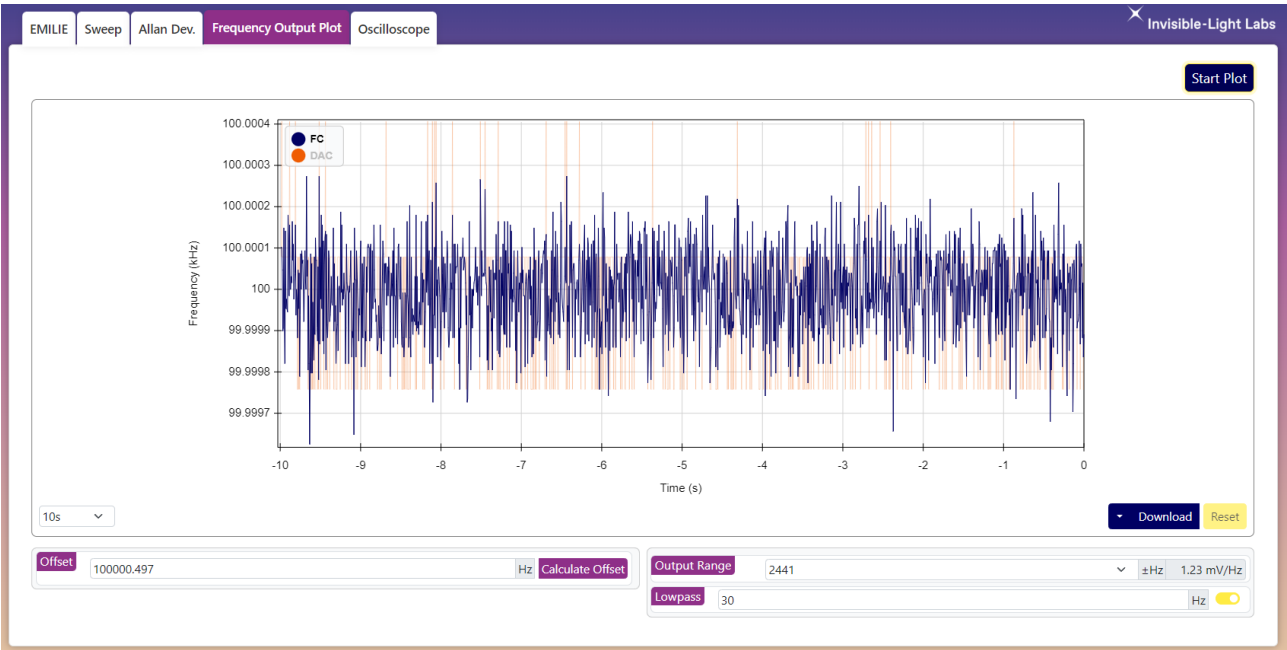

Figure 58: The frequency output tab with a 100 kHz resonance frequency lock.
The "Frequency Output Plot" tab (Figure 58) is almost identical to step 4 of the EMILIE tab ("Results"), apart from the additional low-pass filter settings. The measured frequency is plotted in real-time; time scale can be changed using the drop-down menu in the lower-left corner of the plot. Both the frequency (FC) and the voltage of the analog output (DAC) are plotted at the same